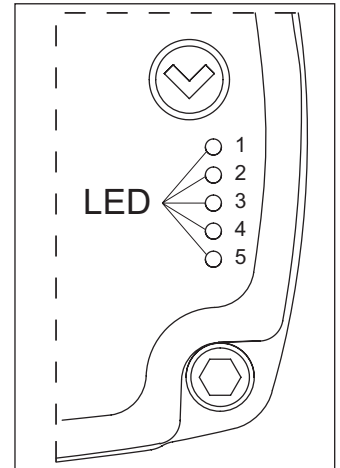

Figure 3
**In the case of a seized pump impeller due to a long layover out of the heating season and simultaneous non-compliance with the recommendation to cycle the pump every couple of days, please restore proper movement of the impeller. To do this, please use PH2 screwdriver, press and turn the screw anti-clockwise, located in the middle of the front panel of the pump (Figure 3) until the pump impeller is spinning freely.**